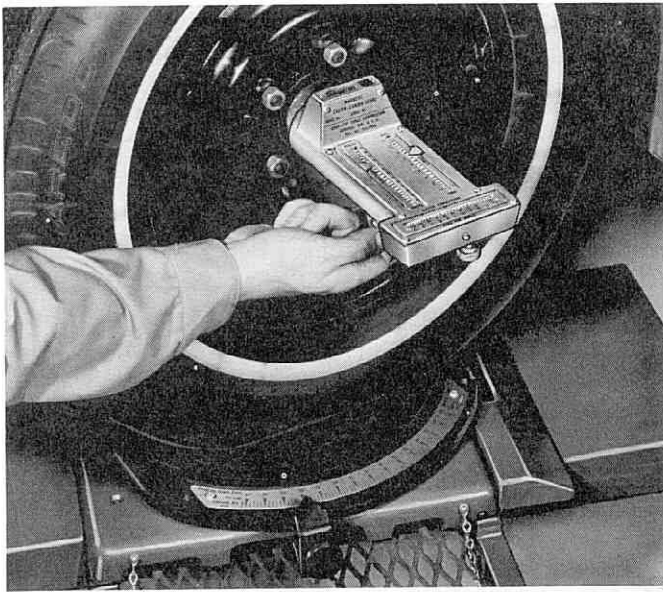

Figure 18—Checking caster, 20° out
1. Be sure the pointers on both turntables are on 0°. Turn the front of the wheel being checked, out to 20° on the turntable dial. (Figure 18).